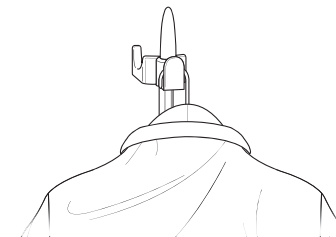

FIGURE 8
2. Alternatively, place garment on a clean, rust-free clothes hanger. Place hanger (with garment) around Hanger Hook (FIGURE 8).